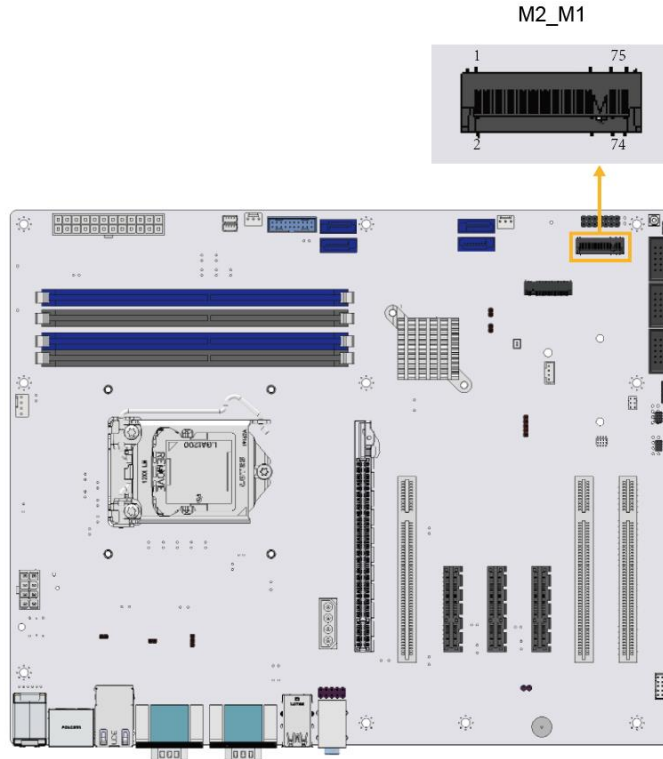

Figure 3-23: M.2 2280 Slot Location
- CN Location:** See **Figure 3-23**